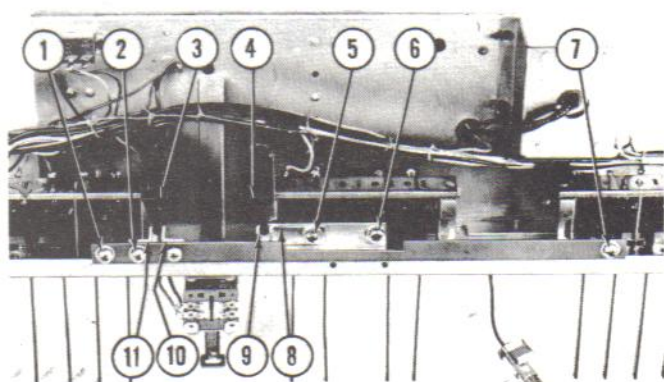

Fig. 13. CONNECTOR LINK ADJUSTMENT - 2504
Figure 13 shows the underside of the 2504 Selector Switch Assembly. Should any adjustment be required, readjust the entire assembly through the following sequence:
(1) Loosen the linkage adjusting screws (Fig. 13, Items 1, 2, 5, 6 & 7) and the two latch lever
(2) Hold the selector switch assembly with the push rods down as shown in Figure 13 and allow the selector switches to assume their natural rest position. Allow the shaft, link and lever assemblies (Items 3 & 4) to fall into their natural vertical positions. Maintain this position and set the connecting links (Items 9 & 10) to zero clearance with the shaft, link and lever assemblies (Items 3 & 4). Tighten the screws (Items 1, 6 & 7).
(3) Set the adjustable clips (Items 8 & 11) to minimum clearance with the shaft, link and lever assemblies (Items 3 & 4) and tighten the screws (Items 2 & 5). Check for complete freedom of action. If any bind exists repeat the foregoing adjustments.